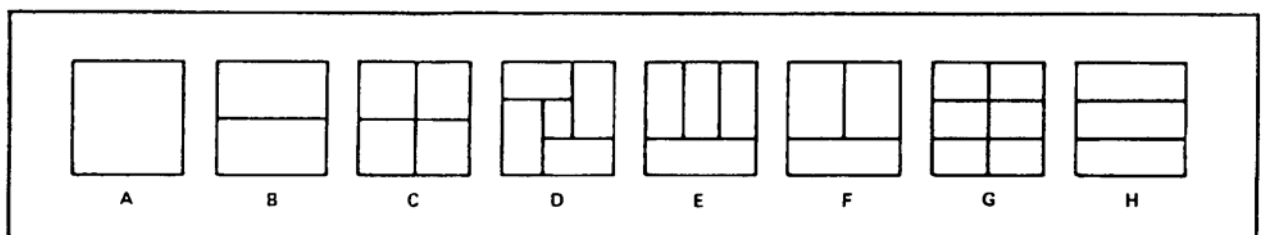

Fig. 1 Unitized load patterns.
2. If diecut is bundled, which of the layouts shown in Fig. 1 would be appropriate?